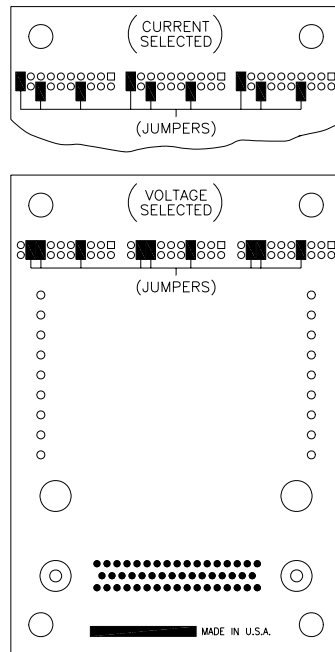

Figure 2-3. 50-Pin Connector Board with Sample Choices (Rear)
- Current (see Figure 2-3). Range is set using the menu in a later step.
- Voltage, with selectable ranges of 0 to 0.1 V, 0 to 1 V, 0 to 5 V, and 0 to 10 V. See Figure 2-3.
2. Place the jumpers on the pins that correspond to the desired printed selections on the front of the board. If current is selected, only the jumpers selecting current make contact with both rows of pins. The other jumpers are offset as shown in Figure 2-3.